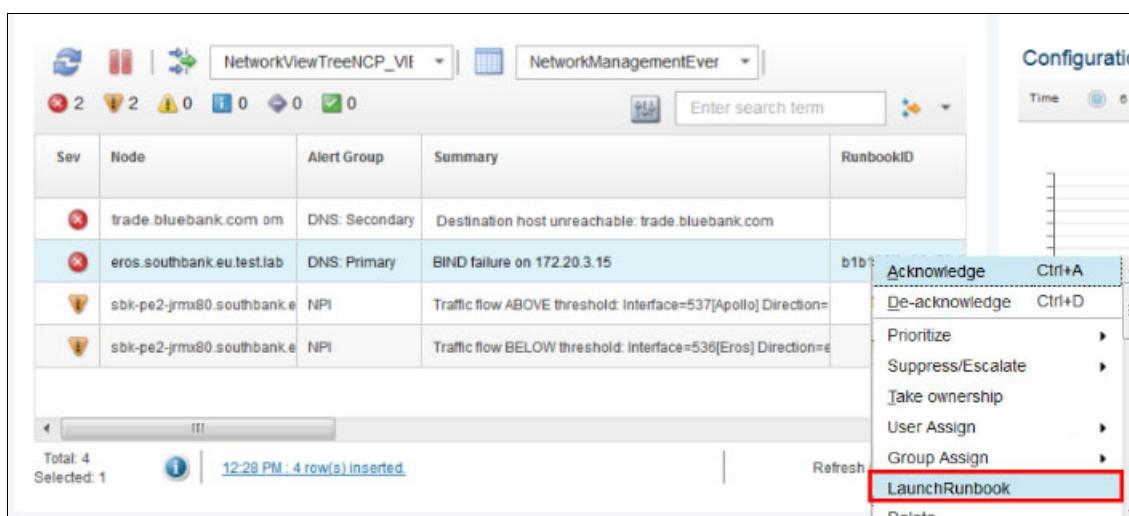

Figure 2-22 Annette can start a Runbook that is associated with a particular event type
6. Annette starts the Runbook to restart Primary DNS, as shown in Figure 2-22.